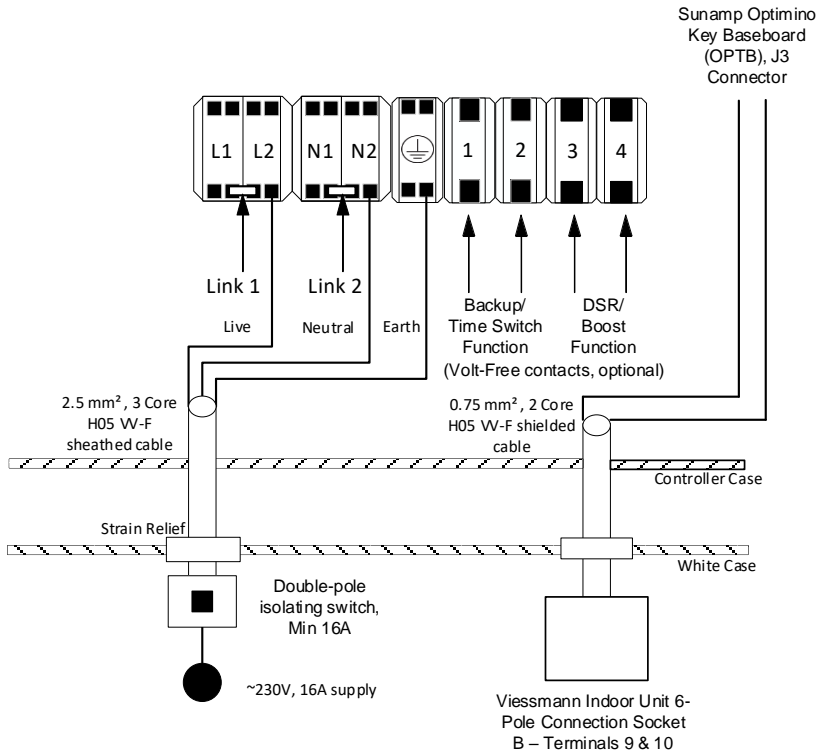

Figure VN.1 - Thermino xPlus with VN01 Optimino key
- Thermino xPlus with the “VN01” & “VN02” Optimino keys (D0084 – Section 6.4.2 for wiring instructions & Figures VN.1 & VN.2 below)
J3 on the Optimino Board; please see Figures VN.1 & VN.2 below for reference.